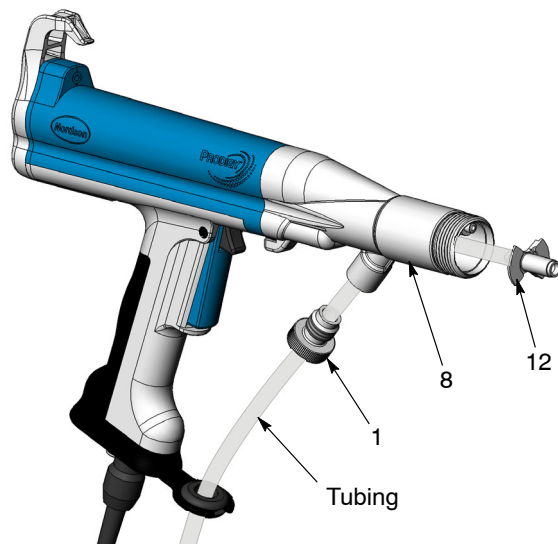

Figure 7 Installing the Flexible Powder Tubing
1. See Figure 7. Slide the lock nut (1) onto the flexible tubing.
2. Push the flexible powder tubing into the gun adapter (8) until it extends a few inches past the front of the gun opening.
4. Install the barbed end of the new tubing adapter (12) into the end of the flexible tubing.